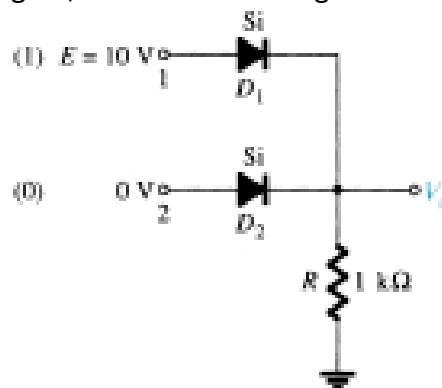

Figure 2
Diodes may be used to build an OR gate, as shown in the Fig 2.
The fig.2 shows one way to build a 2-input AND gate using diodes.
- Fig.2 shows the **series clipper with DC supply**. This configuration is called as **biased series clipper**.
- The **addition of a dc supply** to the network as shown in Fig. 2 can have a pronounced effect on the analysis of the series clipper configuration.
In Fig. 2 it is directly across the resistor R . In some cases it may be across a combination of series elements.
- In Fig. 2, for instance, any positive voltage of the supply will try to turn the diode “ON” by establishing a forward bias current through the diode.